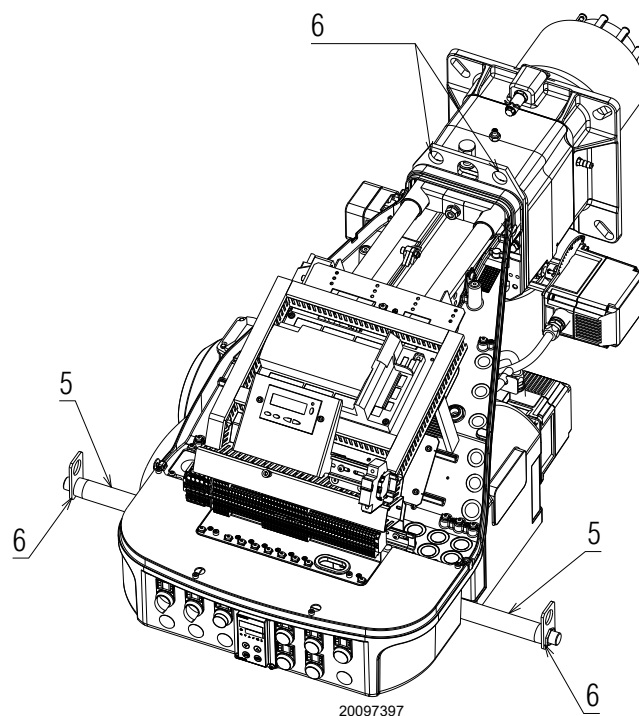

Fig. 18
- insert the electrode cable, then slide the burner as far as the pipe coupling - burner in the position shown in Fig. 18;
- unscrew the 2 screws 2) from the extension 5) and reposition them as previously Fig. 18.